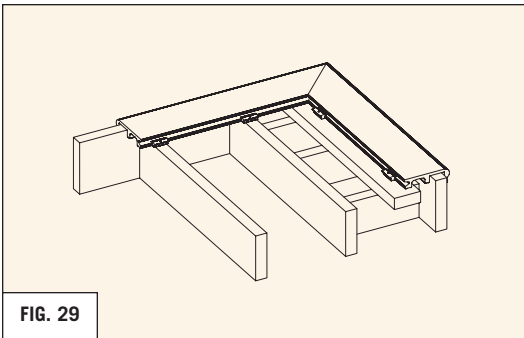

FIG. 29
- Install bullnose trim on rim joist and outer joists first before installing decking. (REFER TO FIG. 29)